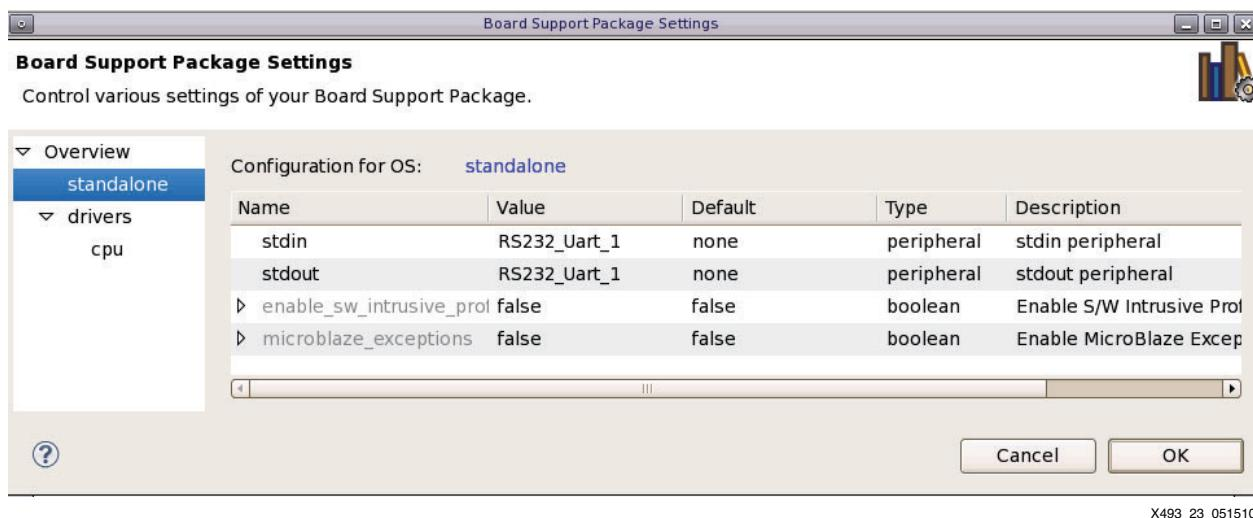

Figure 23: Board Support Package Settings
6. In board support package settings, ensure `stdin` and `stdout` are set to `RS232_Uart_1`, as shown in Figure 23, then click **OK**.